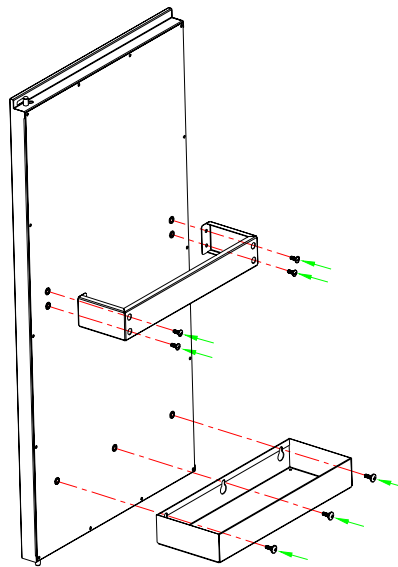
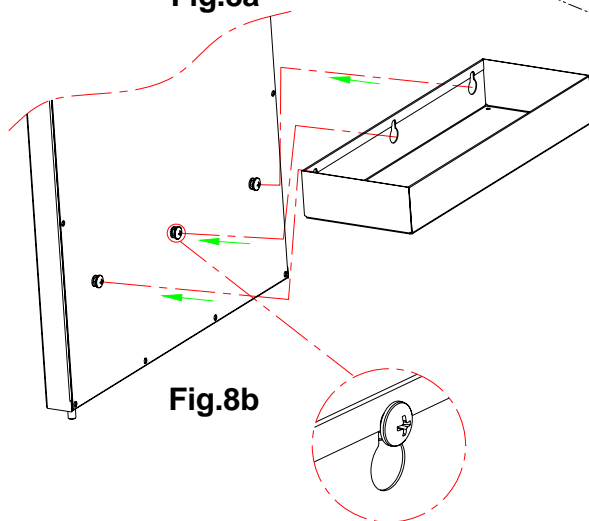

Fig.8a
Fig.8b
1. Attach toolbox bracket to back of right door with four (4) M4 x 10 screws as shown in Fig.8a, then attach three (3) M4 x 12 screws to back of right door without fully inserting the screws and hang the toolbox onto the screws as shown in Fig.8b.